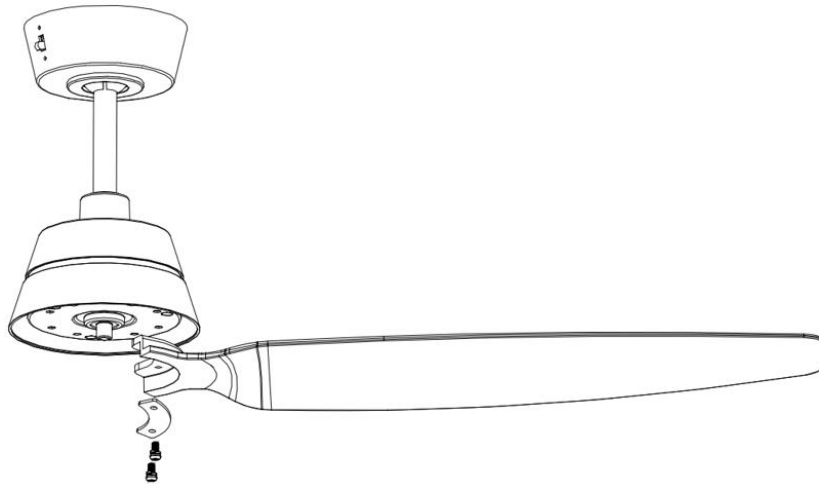

Fig. 5
INSTALLATION OF BLADE (Fig. 5)
1. Orientate the blade Support plate and fan blade onto the fan assembly (Fig.5)
Mount the fan blade onto the fan assembly using three blade screws with lock washers (supplied in fan parts bag) (Fig.5).